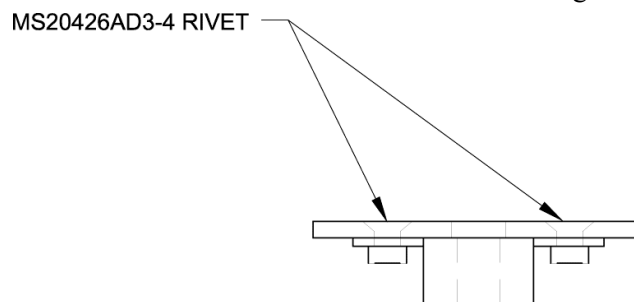

Figure B-16 Riveted Nut Plate And Disk
- Rivet nut plate to disk with MS20426AD3-4 rivets as shown in Figure B-16.